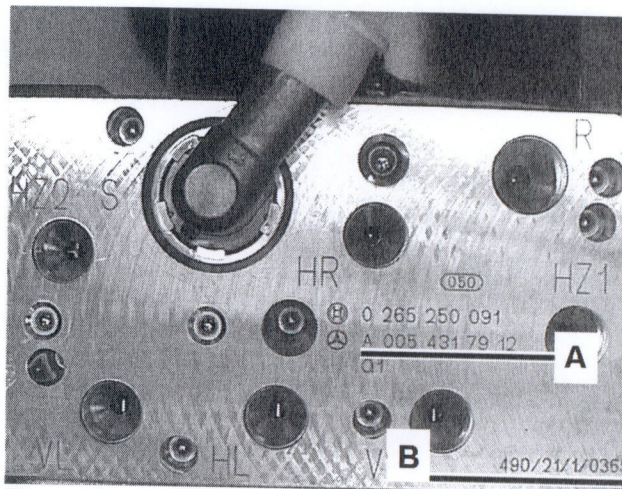

Figure 1
1. Check if SBC hydraulic unit part number (A, Figure 1) is listed in the table below:
- If the part number (A) **is** listed, proceed to step 2.
- If the part number (A) is **not** listed, proceed to step 3.
2. Check (refer to table below) if the production number (B, Figure 1) is within the listed production number range for the relevant part number (A):
- If the production number (B) is **not** within the production number range, proceed to step 3.
- If the production number (B) **is** within the production number range compared to the relevant part number; proceed to Subject B, Replacement of SBC Hydraulic unit.
When reading the production number (B, Figure 1) on the SBC hydraulic pump, disregard the slashes. The production number should be read as a whole number: